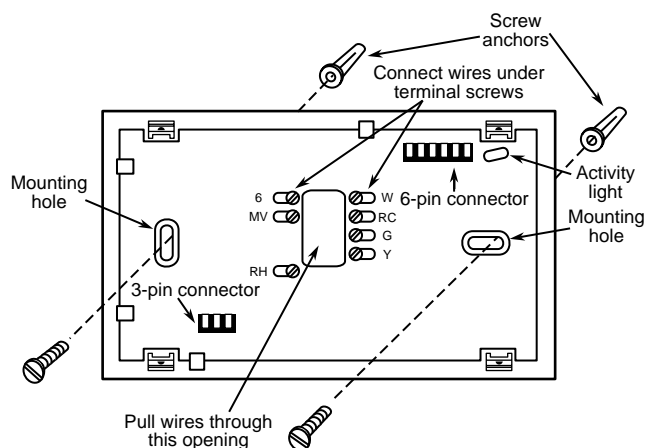

Figure 3. Subbase
3. Connect wires beneath terminal screws on subbase using appropriate wiring schematic (see figs. 3 through 11).
6. Fasten subbase loosely to wall, as shown in fig. 3, using two mounting screws. Place a level against bottom of subbase, adjust until level, and then tighten screws. (Leveling is for appearance only and will not affect thermostat operation.) If you are using existing